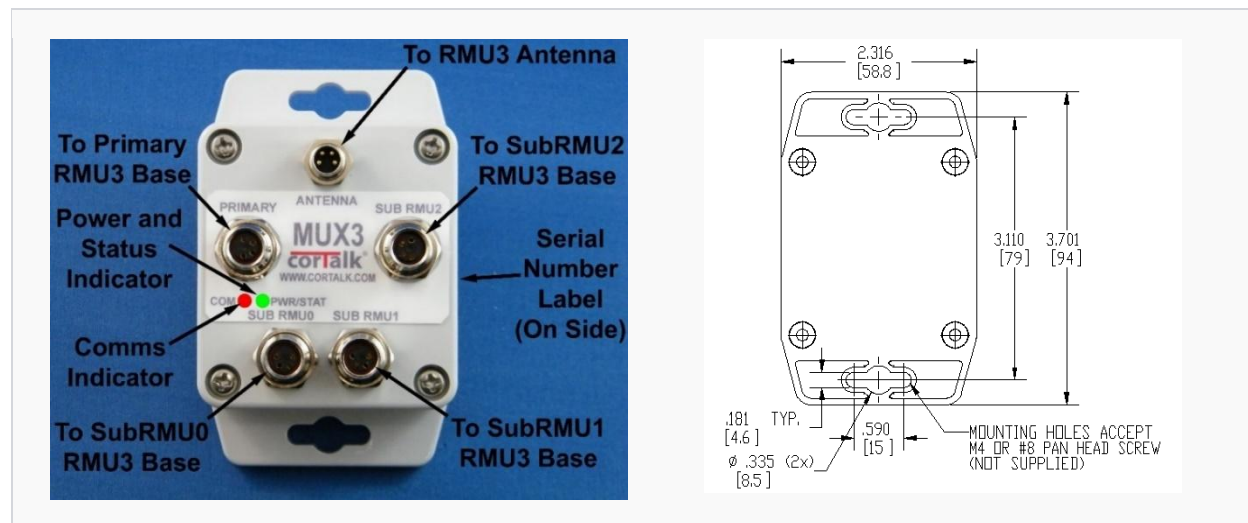

Figure 11 MUX3 Base Multiplexer Features
- Figure 11 shows the connection points and mounting foot print dimensions.